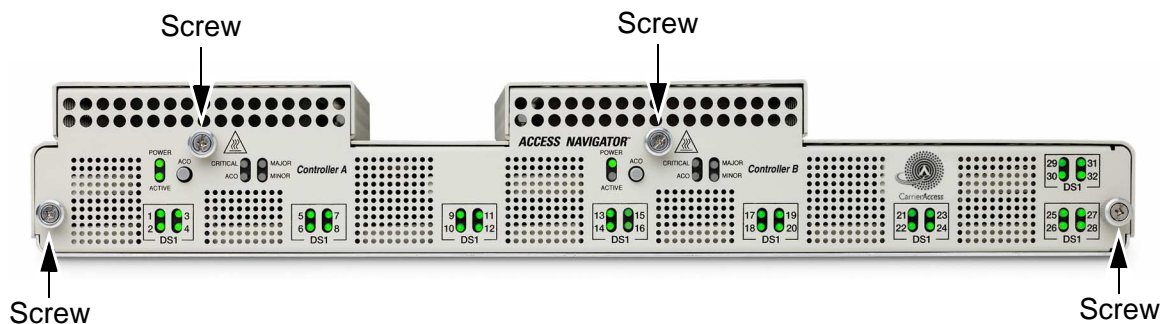

Figure 16-1. Location of Front Panel Cover Screws
2. Loosen captive thumbscrews on front cover (see Figure 16-1).